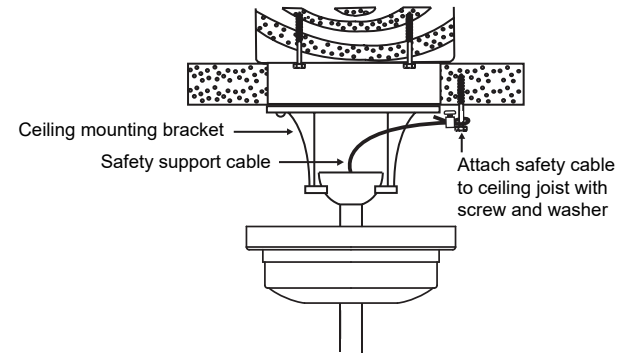

Fig. 10
Step 1. Attach the provided wood screw and washers to the ceiling joist next to the mounting bracket but do not tighten. (**Fig. 10**)